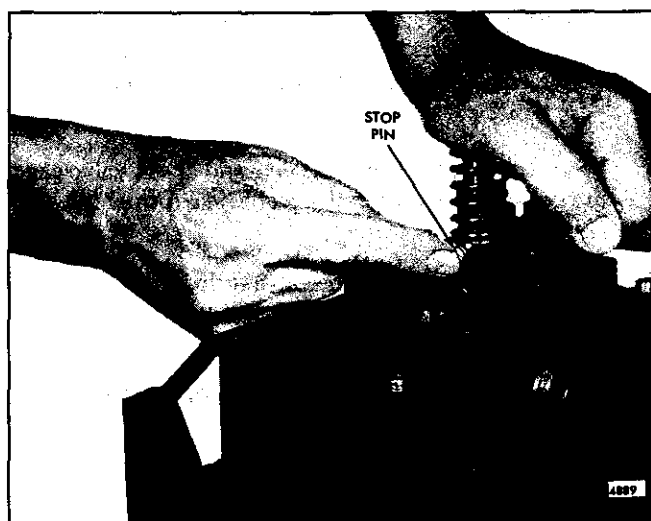

Fig. 34 - Installing Injector Follower Stop Pin
25. Refer to (Fig. 34) and place the stop pin on the injector body so that the follower spring rests on the narrow flange of the stop pin.